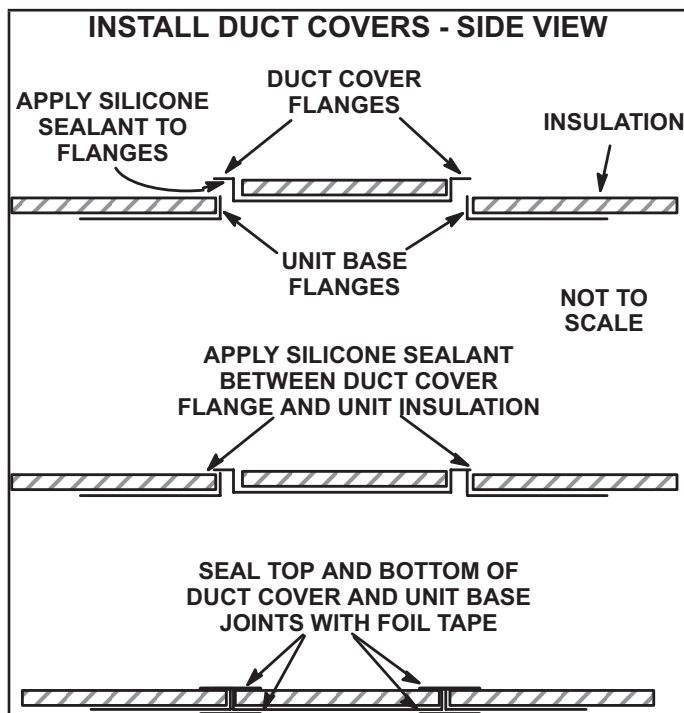

FIGURE 4
- 1 - Remove horizontal covers and place a bead of silicone sealant on the underside of the duct cover flanges. See FIGURE 4.
- 4 - Seal top and bottom of duct cover and unit base joints with foil tape. See FIGURE 4.